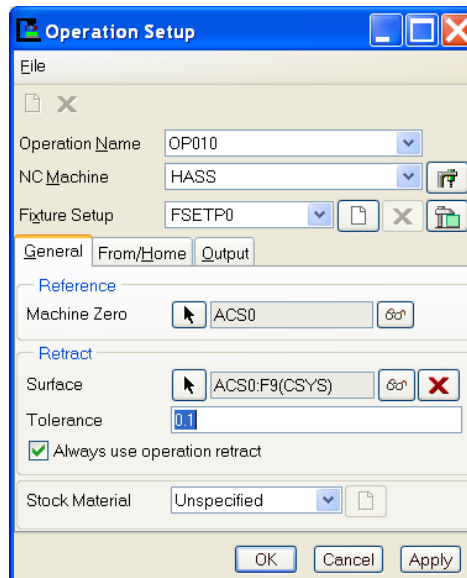

Figure 1.30 Completed Operation Setup
8. Complete Operation setup. Click OK to close operation setup as Figure 1.30. MFG Setup → Done → Return.